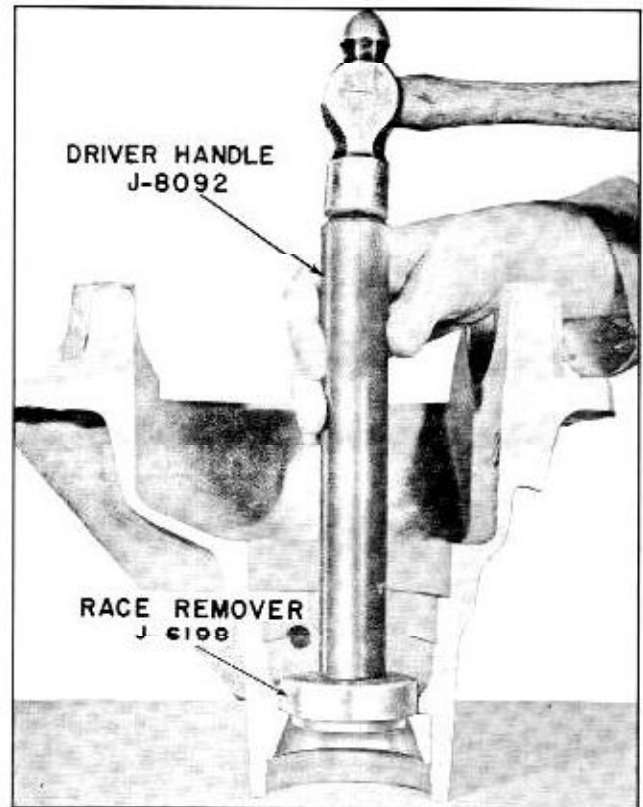

Fig. 6-24 Removing Front Bearing Outer Race
9. Press the front bearing outer race from carrier using Tool J-6198. (Fig. 6-24)